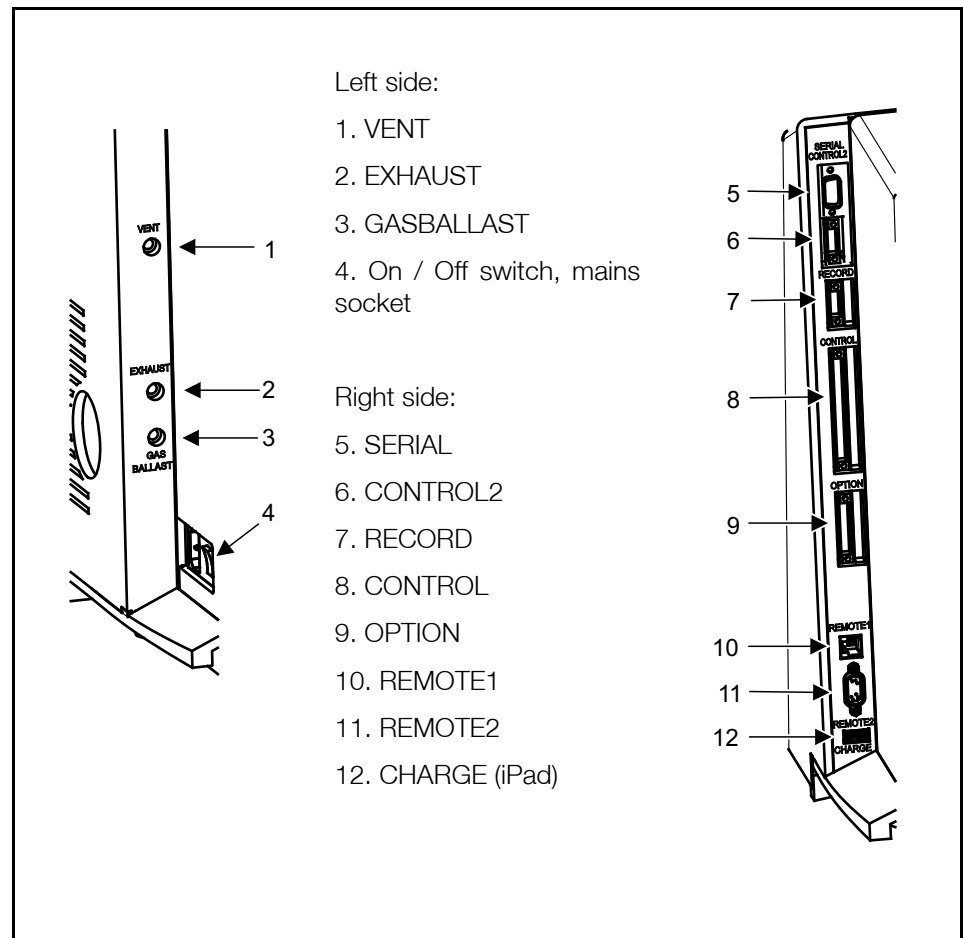

Fig. 9 Side views of the PHOENIX L300i
The mains voltage rating for the PHOENIX L300i can be read off from the name plate beneath the mains socket Fig. 9/4 at the side. This voltage is fixed and can not be changed.
The mains voltage is applied to the instrument via the detachable mains cable which is supplied with the instrument. A mains socket Fig. 9/4 is available for this purpose at the side of the instrument.
The sniffer line SL300 or the partial flow system may be connected to the option port (Fig. 9/9):
The following relay outputs Fig. 9/8 are available for further signal processing. The maximum rating for the relay contacts is 60V AC/1A.
These inputs Fig. 9/6 are working only, if the correct location of control is chosen. See chapter Interfaces.
The recorder output Fig. 9/7 may be used to chart the leak rate, the inlet pressure and the fore vacuum pressure. Both recorder activities can be adjusted individually for showing leak rates and pressures.
This RS232 interface Fig. 9/5 is wired as data communication equipment (DCE) and permits the connection of a personal computer (PC) for monitoring and data logging. The connection is made through a 9 pin sub-D socket. For more information refer to chapter Interfaces and the Interface Description.
The remote control interface Fig. 9/10 is a serial interface to control the PHOENIX L300i by the remote control. The remote control can be connected via an extension cable with a RJ45 plug. Refer to the Interface Description for more information. The remote control does not belong to the standard equipment. If the remote control is connected via a cable, wireless communication over REMOTE2 is excluded.